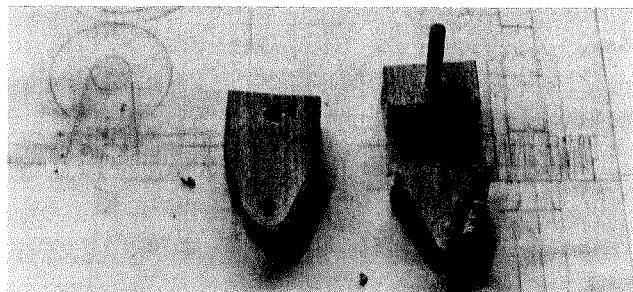

FIGURE 15-7
- 5** Take the eight-layer stack—with the design drawn on the top layer and the dowels in place—and run them through on the scroll saw so you have eight identical cutouts. Divide the cutouts into two stacks of four, and cut a strip from one stack (Fig 15-7).
5 Take the eight-layer stack—with the design drawn on the top layer and the dowels in place—and run them through on the scroll saw so you have eight identical cutouts. Divide the cutouts into two stacks of four, and cut a strip from one stack (Fig 15-7).